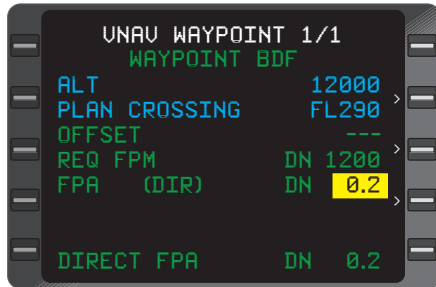

Figure 3-135
6. **ALT** - INSERT or VERIFY. If an altitude constraint has already been programmed, the cursor will be displayed over the **FPA (DIR)** field value. You may proceed to Step 10. (Figure 3-135)
NOTE: Direct Flight Path Angle prefills if it is within the valid range (0.1 to 6.0). (Figure 3-135)